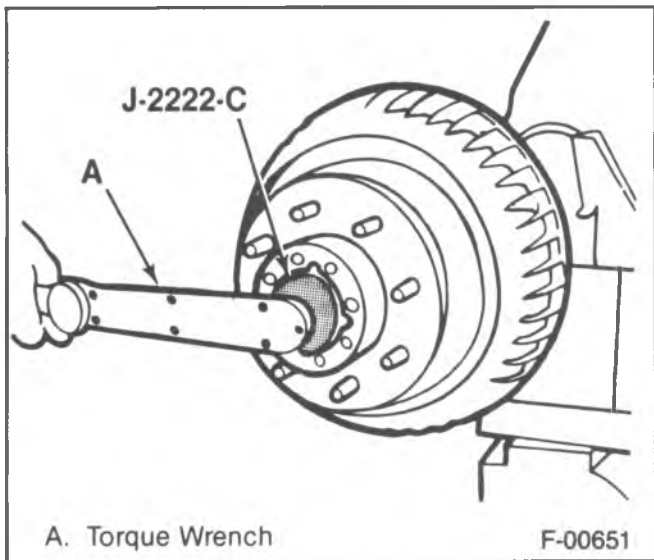

Figure 27—Tightening the Adjusting Nut
- Adjusting nut (42, 58) to 70 N·m (50 ft. lbs.) using J-2222-C (figures 27 and 28).